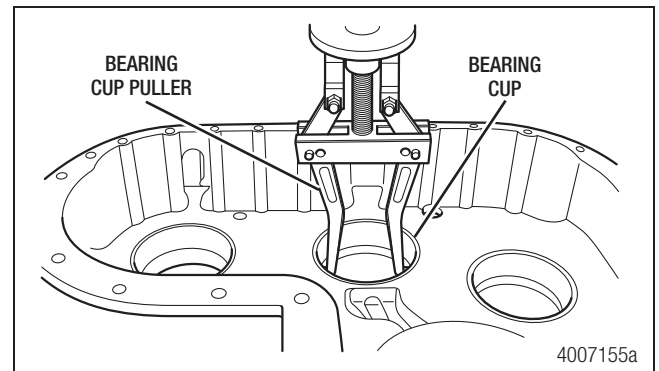

Figure 5.33
- Use a suitable puller to remove the bearing cups from the transfer case half. Figure 5.33.